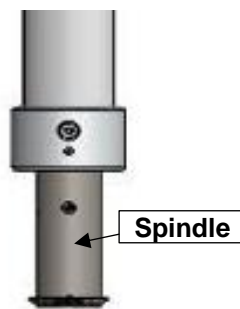

Figure 35
- Position the arm to the ceiling stem spindle (Figure 35) then secure with flat washer then tab washer and finally fit the circlip into the groove using the circlip fitting tool (provided in installation kit).